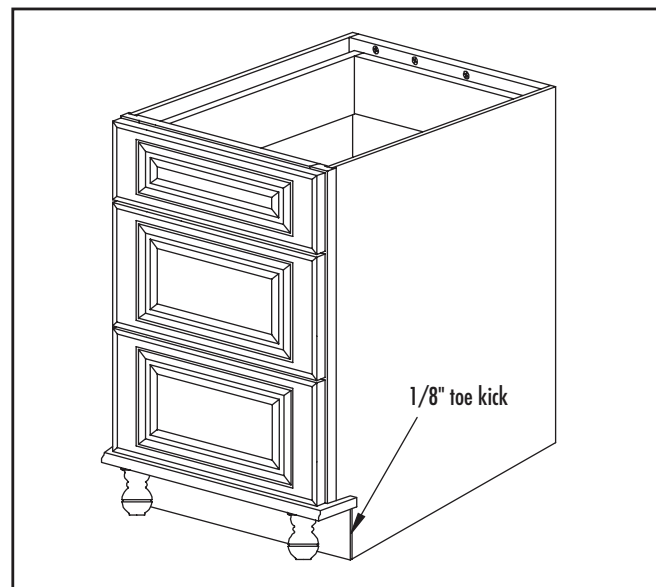

Figure 31
- Using #6 x 1" wood screws, secure the toe kick into place (Figure 31).